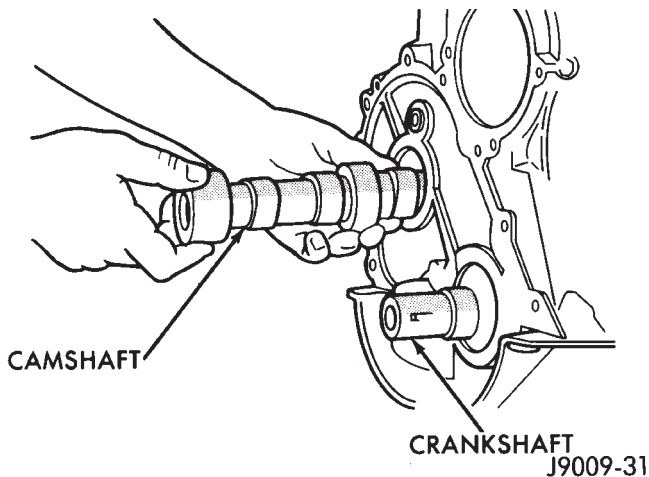

Fig. 48 Camshaft
(5) Scribe a mark on the distributor housing near the clamp and continue the scribe mark on the cylinder block in line with the distributor mark.
(6) For ease of installation, note the position of the rotor and distributor housing in relation to adjacent engine components.
(7) Remove the distributor and ignition wires.
(8) Remove the engine cylinder head cover.
(9) Remove the rocker arms, bridges and pivots.
(10) Remove the push rods.
(11) Remove the hydraulic valve tappets from the engine cylinder head.
(12) Remove the vibration damper.
(13) Remove the timing case cover.
(14) Remove the timing chain and sprockets.
(15) Remove the camshaft (Fig. 48).
(1) Inspect the cam lobes for wear.
(2) Inspect the bearing journals for uneven wear pattern or finish.
(3) Inspect the bearings for wear.
(4) Inspect the distributor drive gear for wear.
(5) If the camshaft appears to have been rubbing against the timing case cover, examine the oil pressure relief holes in the rear cam journal. The oil pressure relief holes must be free of debris.
(6) Lubricate the camshaft with Mopar Engine Oil Supplement, or equivalent.
(7) Carefully install the camshaft to prevent damage to the camshaft bearings (Fig. 48).